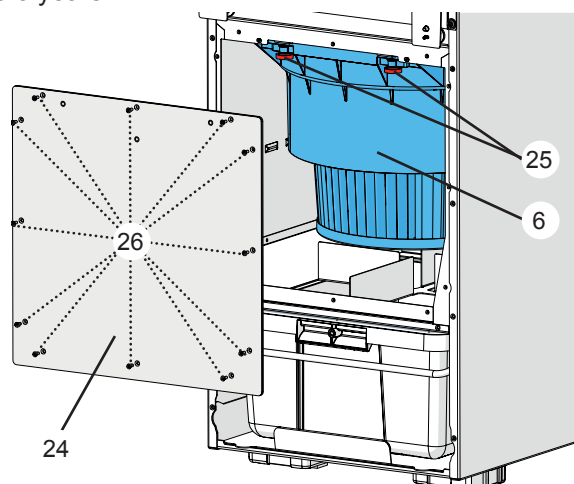

Fig. 25
- ⇒ Place the rear edge of the fine filter into the guide rails (27), push in completely and flip up and close.
- ⇒ Insert fixing screws (25, Fig. 25) and screw closed.
If it is not possible to close the cover plate, then the fine filter has not been completely returned into the housing, or the fine filter is situated too low due to the fact that the fixing screws (25, Fig. 25) have not been tightened sufficiently.